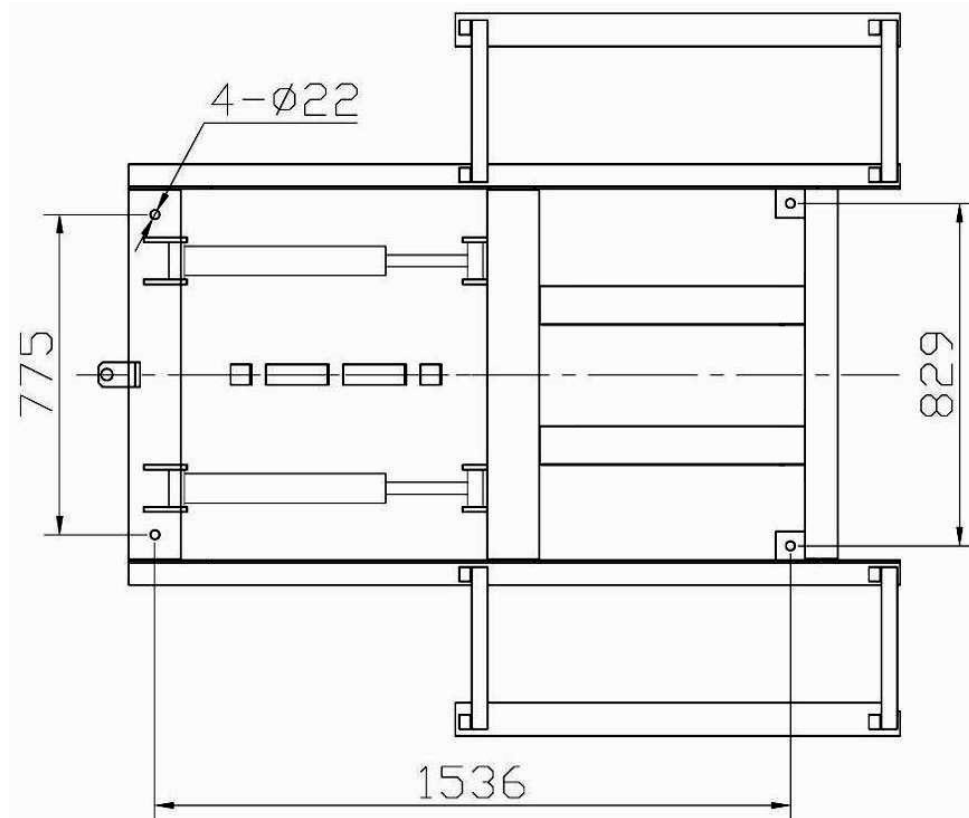

Fig. 22
5. There are four fixed holes in the machine, can fix the machine on ground by 3/4 X 4 3/4" anchor bolts (**See Fig.22**).